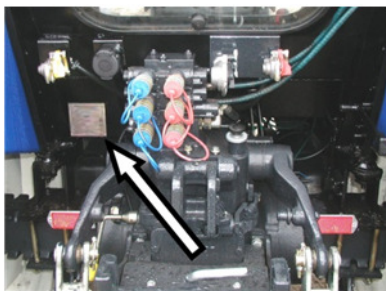

Fig. 1a
- on tractor identification plate, located on the left hand side on the rear wall of Cabin and affixed with rivets, (Fig. 1a),